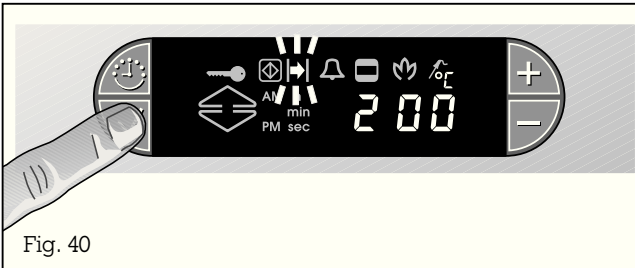

Fig. 40
- Press the ✓ (Confirm) key and keep it pressed, until the ➡ (Rotary Spit) symbol flashes. (Fig. 40) Remove your finger from the key. The rotary spit then begins to turn.